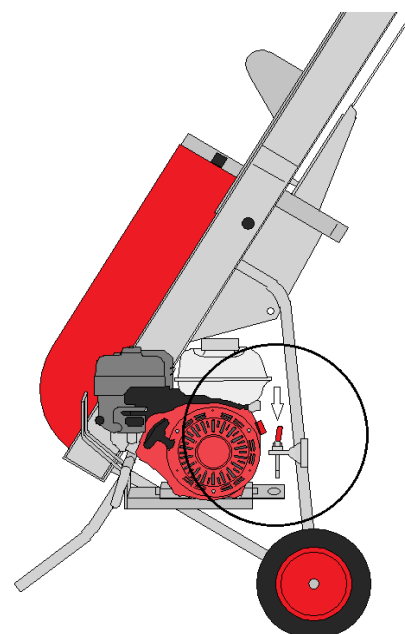

Fig. 10
10. Rotate engine belt tensioner into place so that plunger is over recess in engine cradle. Operate lever to tension belts. (Fig. 10.) Rotate belt cover back into position and lock anti-luce fastener. Plug stop lead into machine. **Never operate machine with cover open or engine stop lead unplugged.**